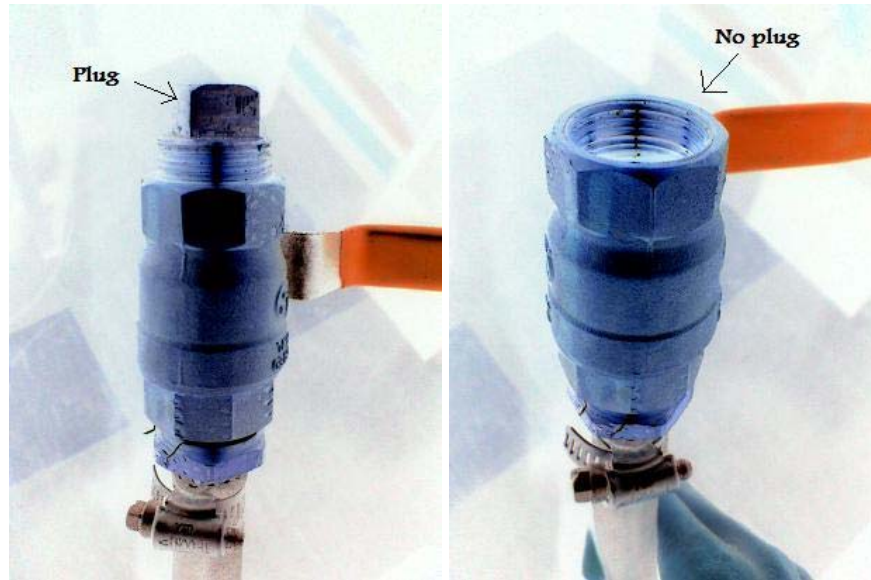

Figure 2: Before and after removing brass plug from priming/drain tube
1. Remove the brass plug from the ball valve located at the end of the priming/drain tube (at the end of the hose located at the bottom of the unit) as shown in Figure 2.